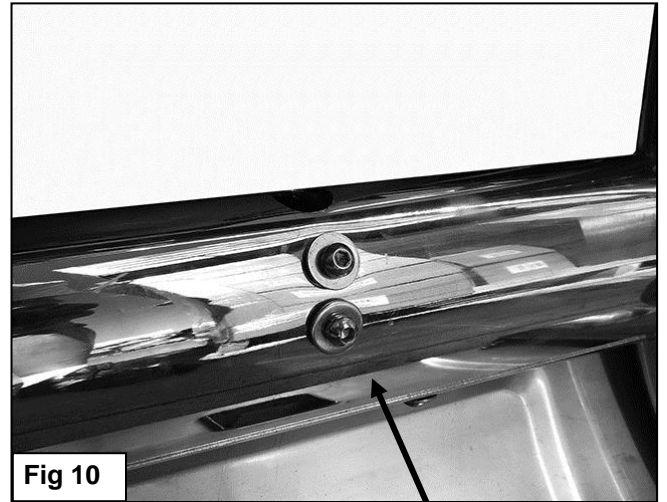

Fig 10
- a) Insert the included (4) 6mm x 20mm Button Head Bolts, (4) 6mm Lock Washers and (4) 6mm Flat Washers into the threaded inserts in the back of the crossbar to plug the holes, **(Figure 10)**. Tighten hardware. Installation is complete.